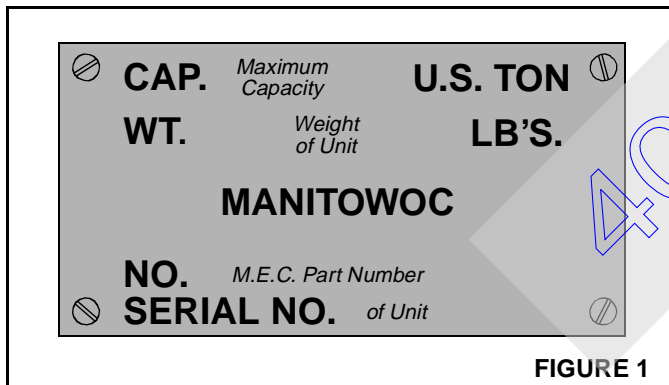

FIGURE 1
- Do not remove or deface nameplate (Figure 1) attached to load blocks and hook-and-weight balls.